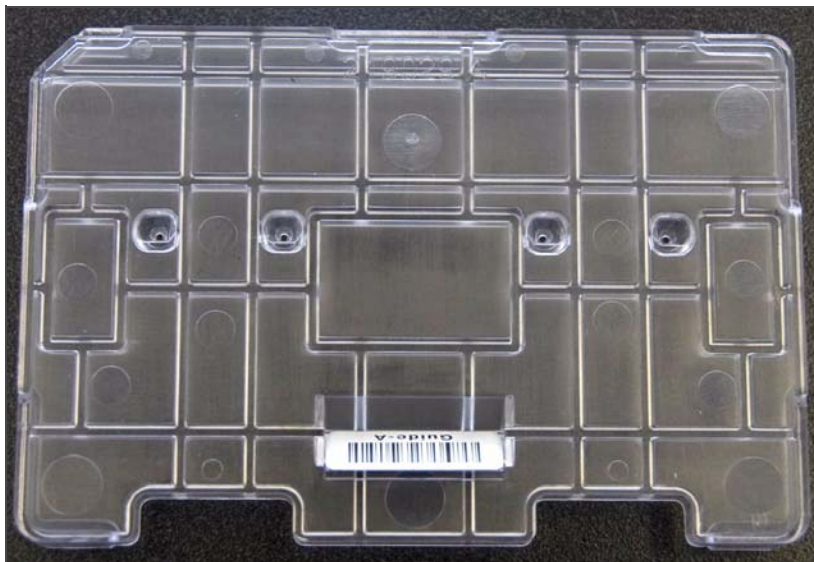

Figure 124 Guide-A Robot Tip Alignment Guide
2. Make sure you have the correct Robot Tip Alignment Guide for the Gemini assay. The guide barcode should say Guide-A on it (Figure 124).